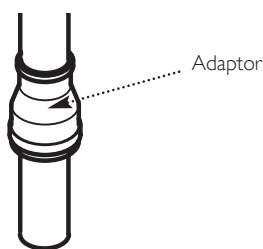
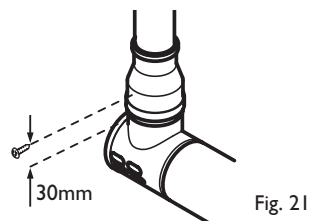

Fig. 22
Fig. 21
9. The  $60\text{Ø}$  exhaust can now be fitted. Slide the adaptor over the plain end of the  $60\text{Ø}$  exhaust (Fig. 22) and engage the exhaust in the terminal. Slide the adaptor down over the spigot. Mark and drill the adaptor, using a 2mm bit, as shown in Fig. 21. Secure the adaptor to the spigot using one of the screws supplied.